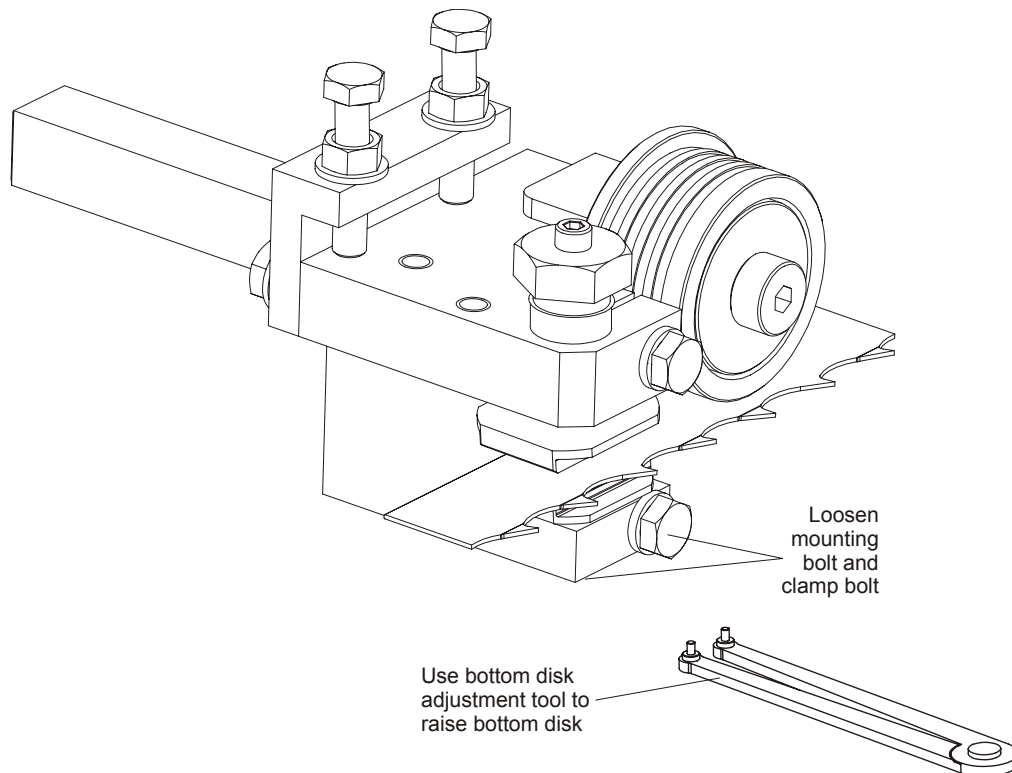

FIG. 5-1
**See Figure 5-1.** To adjust the disks up, loosen the bottom guide disk mounting bolt and clamp bolt. Use the provided adjustment tool. to raise bottom disk Retighten the bottom disk mounting bolt and clamp bolt. See Section: "See Section."